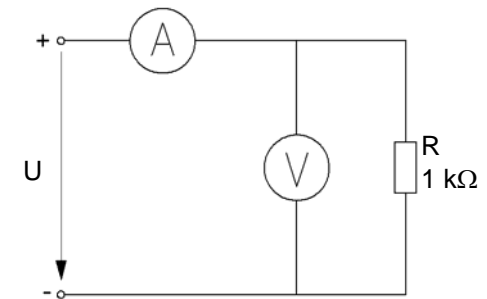

Fig. 3.2.2.1: Recording the characteristic  $I = f(U)$
- Assemble the exercise on the Board (Fig. 3.2.2.1). Connect the outputs of the Variable DC Voltage to the inputs of your circuit. When connecting the test instruments, pay attention to the correct polarity. First, insert the plug-in resistor  $R = 1\text{ k}\Omega$ .